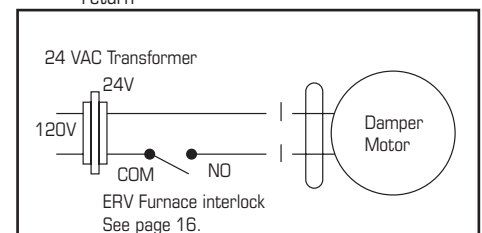

Figure 1
**If the FAA is installed such that the homeowner may turn off the FAA during the winter, we recommend installing a motorized damper between the FAA's supply air and the furnace's return air duct that closes when the FAA is not operating. See wiring diagram (figure 1). You may also choose to use a Fantech FAA that uses a recirculation defrost that incorporates an outdoor air damper.**